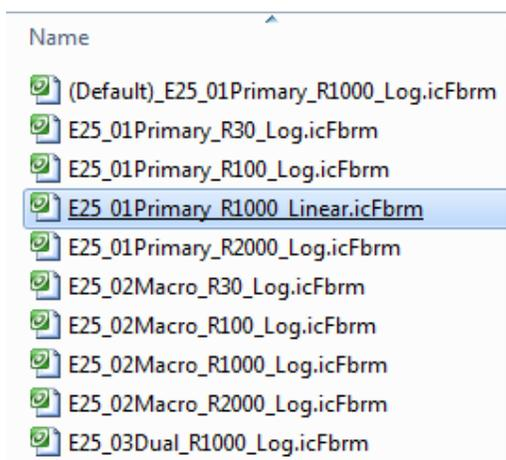

Figure 3-12 Experiment templates for a selected instrument
**Custom templates**—An advanced iC FBRM software user can develop iC FBRM experiments for use in iC Process web application method development. A custom template should be copied to the appropriate folder to be used in iC Process for FBRM (see Figure 3-12).